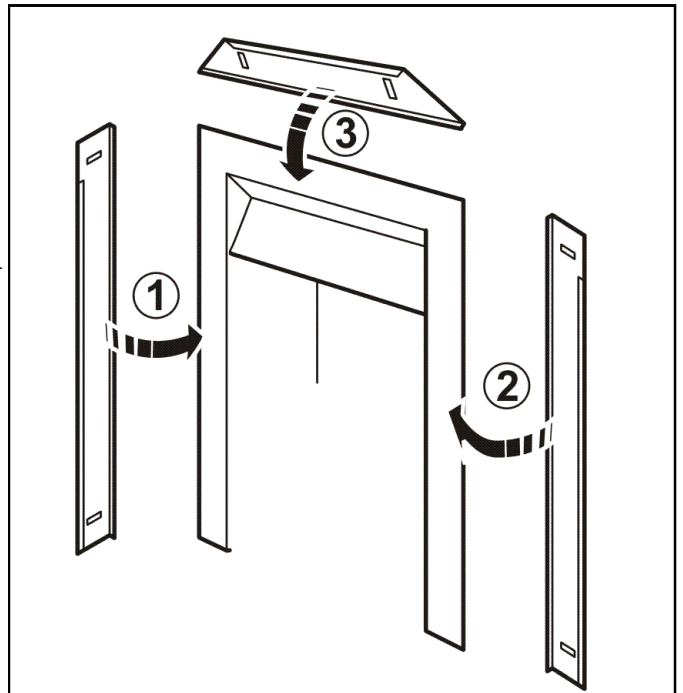

Figure 28. Fitting the magnetic fascia
3. Locate the side trims as in figure 28.
4. Locate the top trim as in figure 28.